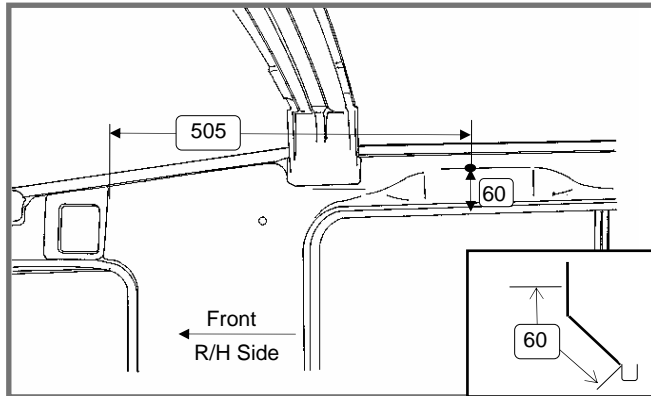

Figure 1
- From the top edge of the window rubber, measure 60mm up following the panel contour. Refer insert detail in Fig 1.